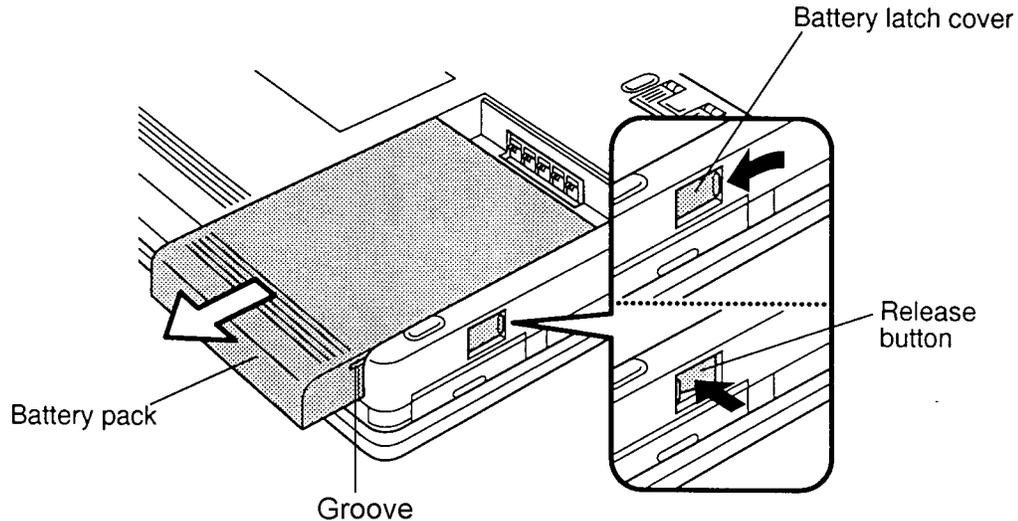

Figure 4-1 Removing the battery pack
To remove the T2400CS/T2400CT battery pack, follow the steps below and refer to figure 4-1.
3. Slide open the **cover** to the battery latch and press the **release button** until it clicks. The battery will pop out slightly (figure 4-1).
4. Firmly grasp the **battery pack** and pull it out (figure 4-1).
To install the T2400CS/T2400CT battery pack, follow the steps below and refer to figure 4-1:
2. Push the **battery pack** in until it locks into place (figure 4-1).